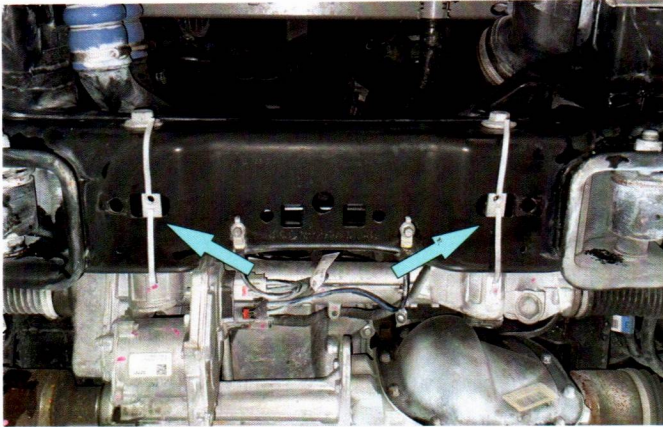

Fig. 1
1. Remove factory nuts and install insert nuts with wires (item B) as shown in fig.1.